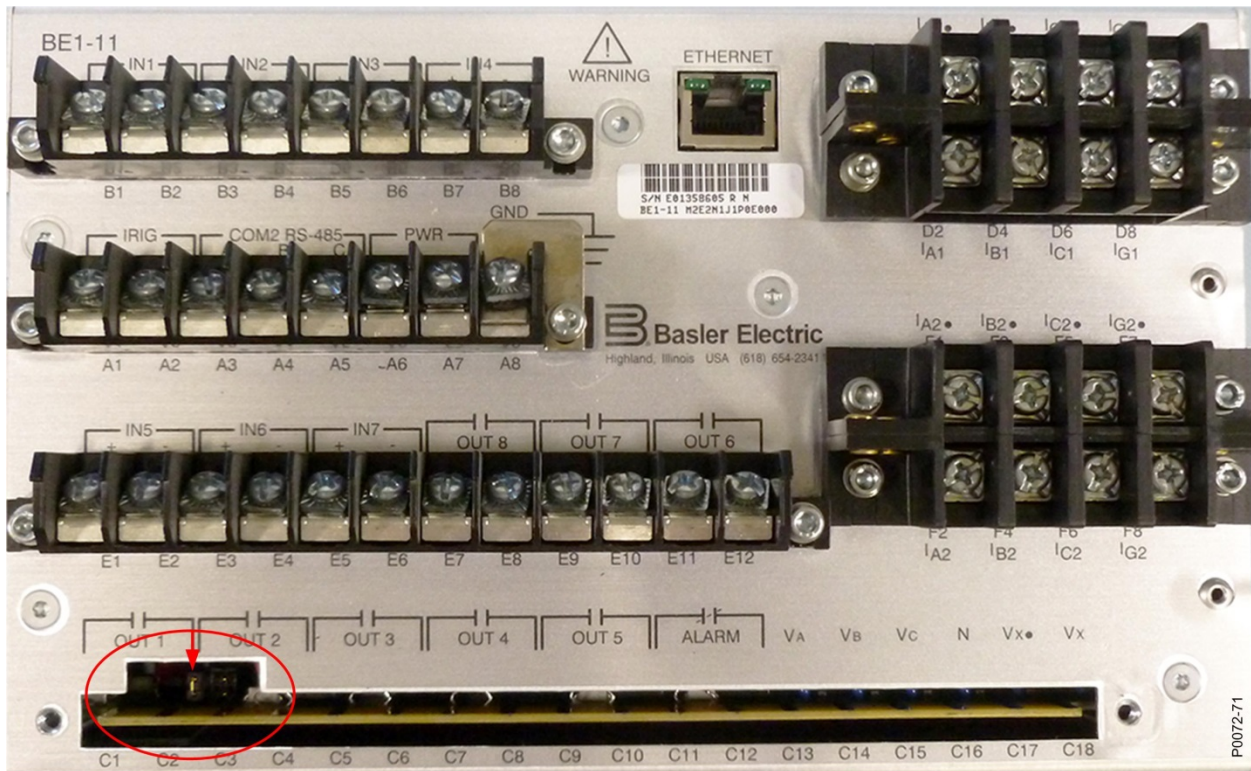

Figure 46-4. Trip Circuit Monitor Enable/Disable Jumper Location
2. Locate the jumper terminal block that is mounted on the left side of the circuit board. The terminal block has four pins. With the jumper as installed at the factory, the jumper should be connected across pins 1 and 2 (left side) when viewed from the back of the unit. This jumper configuration enables the trip circuit monitor. Figure 46-4 illustrates the location of the jumper terminal block as well as the position of the jumper connected.